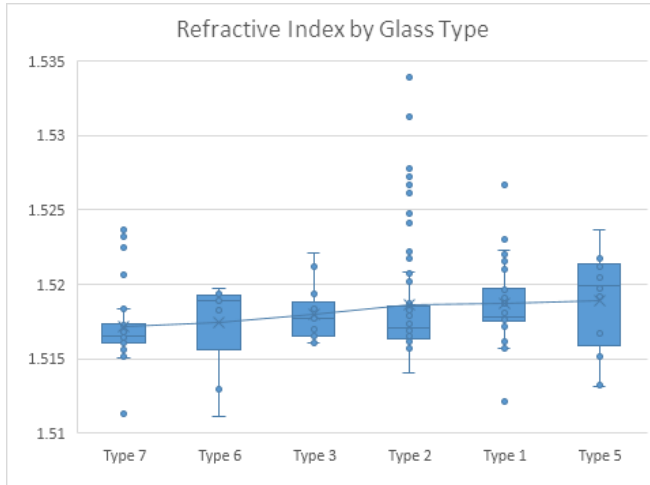

Figure 2 – RI by Glass Type
The box and Whisker plot (Ref: Figure2) shows a relationship between the type of glass and the refractive index (RI). Further analysis will help determine if the refractive index can be predicted based on glass composition.